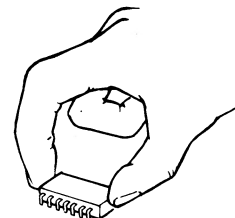

Fig. 3
- When it is necessary to handle the IC with the fingers, do not touch any pin, and hold the IC at the ends of its plastic-package case. (Fig. 3)